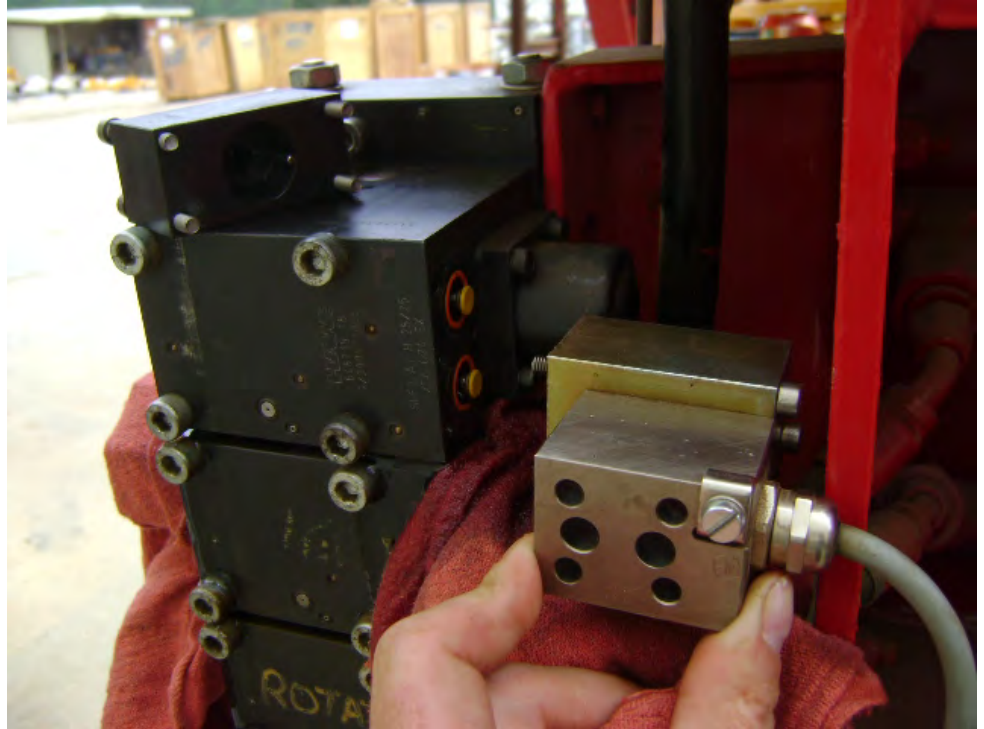

Figure 11
12. Locate the new electric operator and insert four 4mm x 60mm socket head screws through the coil body (Figures 11 and 12).